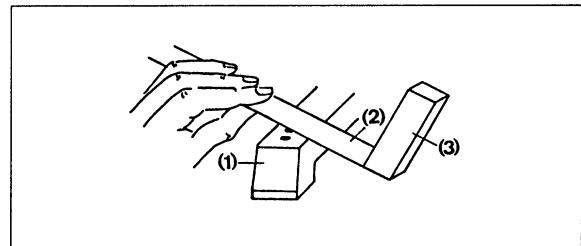

Fig. 4 Tipping experiment with a cuboid
6. Create an inclined plane by placing one end of the leaf spring (2) on the stand base (1), as shown in fig. 4.